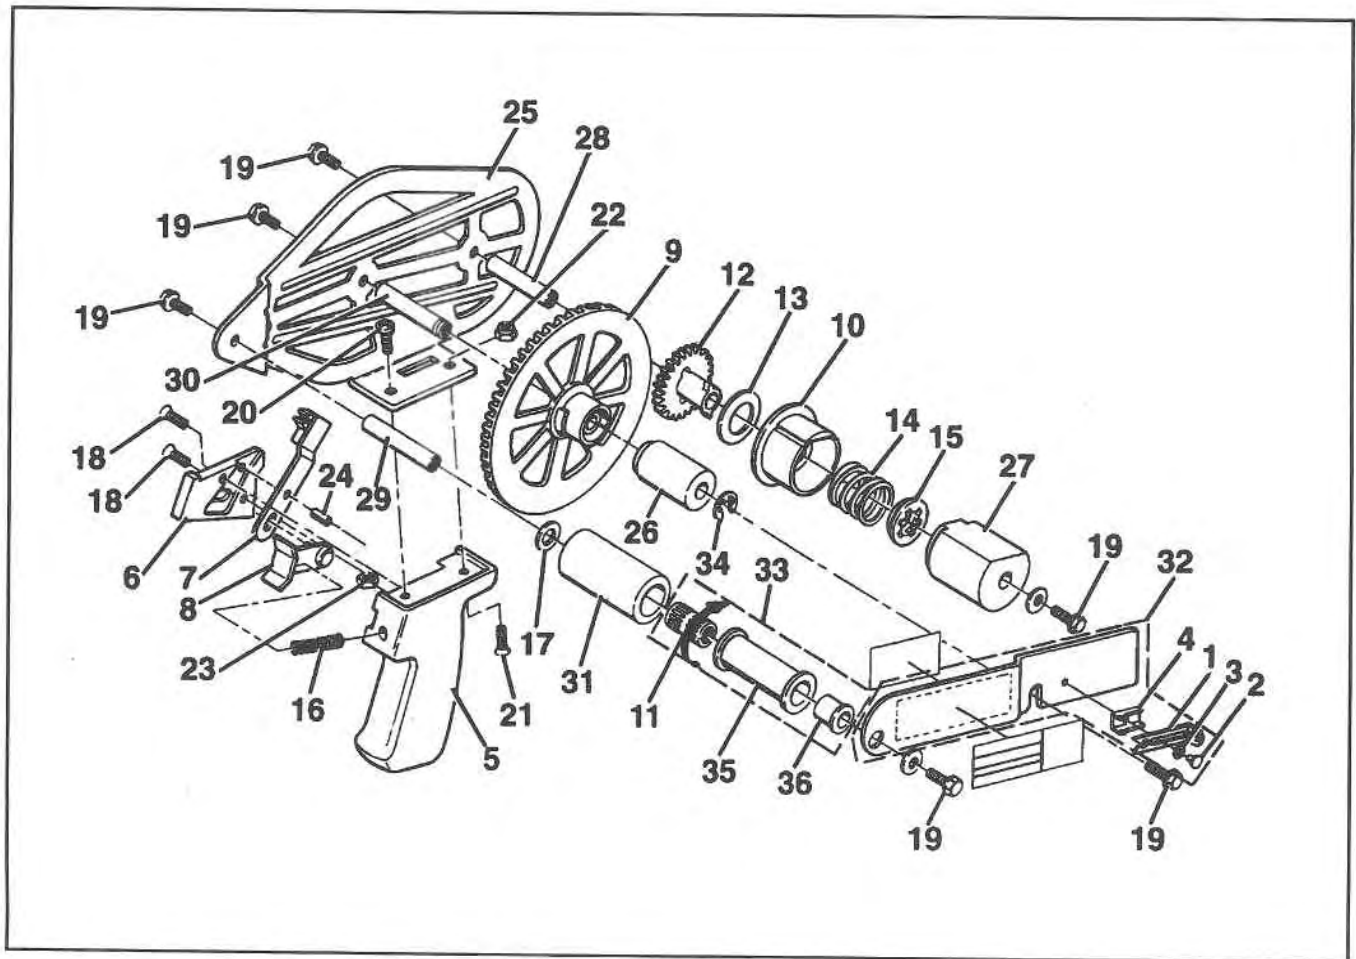

Figure 2 – Replacement Parts Illustration
1. Disassemble unit as required – refer to Figure 2.
1. Refer to Parts Illustration Figure 2 to find part needed and reference number.